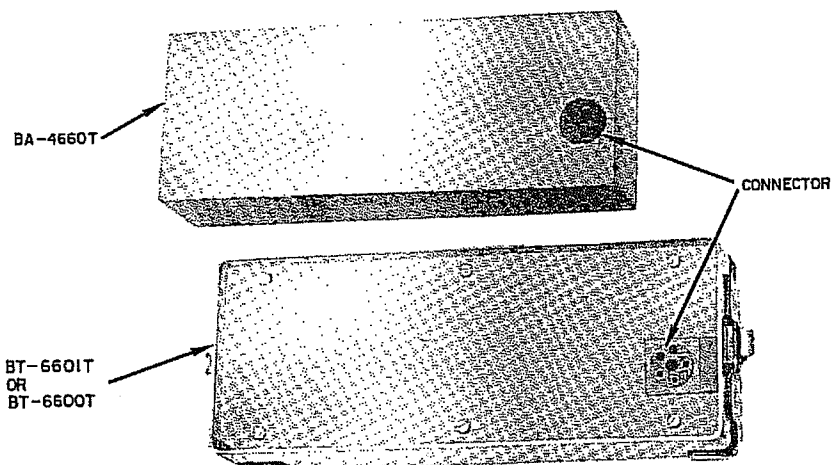

Figure 1-16. Batteries BA-4660T and BT-6600T
d. Battery BA-4660T (fig. 1-16)
(fig. 1-16) The BT-6600T is not supplied as part of Radio Set PRC-660T, and may be used instead of the BA-4660T. It weighs about 3800 grams and has an average life of 12 hours at a 9:1 receive-transmit interval. A smaller capacity battery, the BT-6601T, weighs about 2250 grams and has an average life of 6 hours at a 9:1 receive-transmit interval.